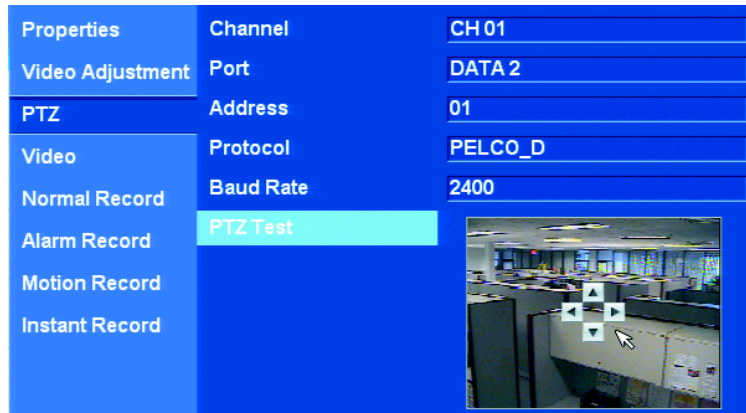

Figure 18. PTZ Test Controls
- b. On the front panel or remote control, press ENTER. Using the mouse, left-click the window. The PTZ test controls are available. Refer to Figure 18.